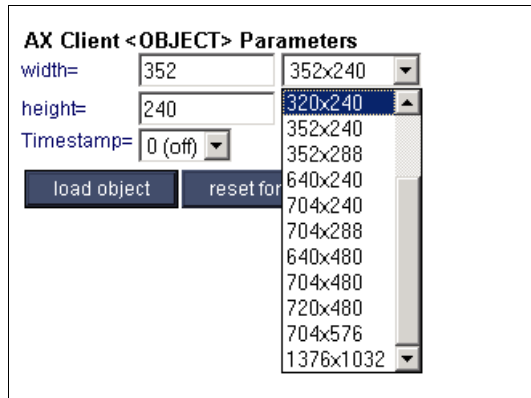

Figure 8-54 Reset the display resolution of the video on the Extract Clip page
4. Finally, if you want to change the display resolution of the video-screen on the Extract Clip' page, click the **Change AX Client Parameters** link, which is located above the video screen, as shown in Figure 8-54 on page 291.